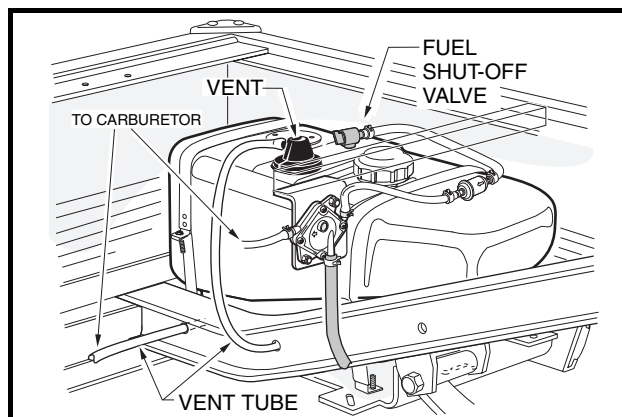
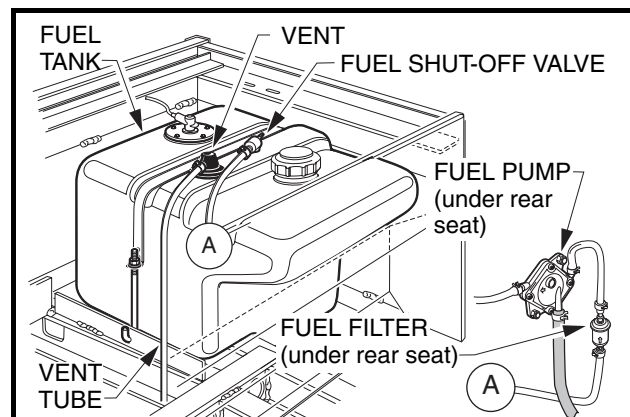

Figure 19 Fuel Tank – 272 Vehicle
Figure 20 Fuel Tank – 472 Vehicle
- If the vehicle has an all-weather enclosure installed, be sure the fuel tank is properly vented as shown (Figure 19 or Figure 20).